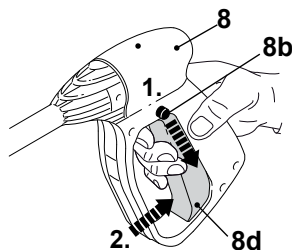

Fig. 18
4. Deactivate the trigger lock by pressing the deactivate button (8b) (Fig. 18).